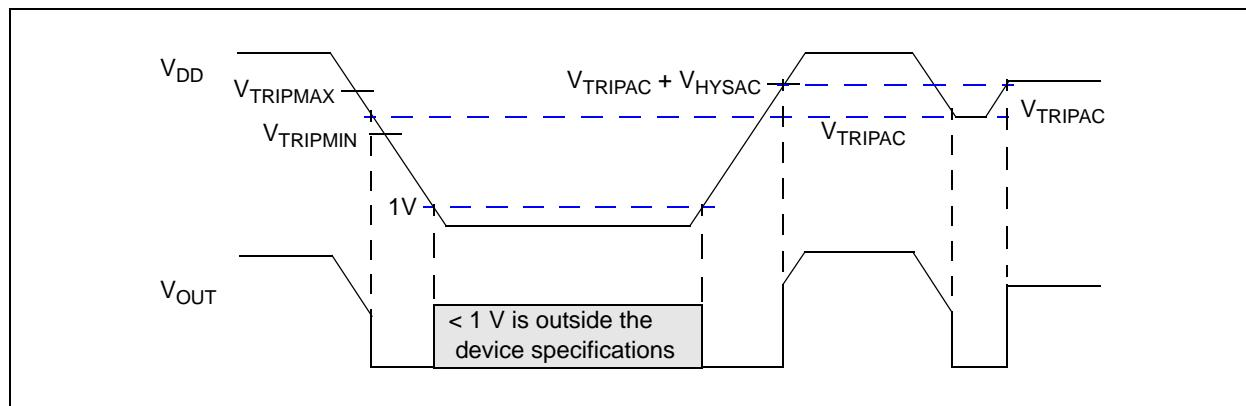

**FIGURE 4-1:** Typical Application Circuit.
**Note:** Unless otherwise indicated, all limits are specified for  $V_{DD} = 1V$  to  $5.5V$ ,  $R_{PU} = 100\text{ k}\Omega$  (only MCP111; see Figure 4-1),  $T_A = -40^\circ\text{C}$  to  $+125^\circ\text{C}$ .
Note: Unless otherwise indicated, all limits are specified for  $V_{DD} = 1V$  to  $5.5V$ ,  $R_{PU} = 100 k\Omega$  (only MCP111; see Figure 4-1),  $T_A = -40^\circ C$  to  $+125^\circ C$ .
**Note:** Unless otherwise indicated, all limits are specified for  $V_{DD} = 1V$  to  $5.5V$ ,  $R_{PU} = 100 \text{ k}\Omega$  (**only MCP111**; see **Figure 4-1**),  $T_A = -40^\circ\text{C}$  to  $+125^\circ\text{C}$ .
**Note:** Unless otherwise indicated, all limits are specified for  $V_{DD} = 1V$  to  $5.5V$ ,  $R_{PU} = 100 k\Omega$  (**only MCP111**; see **Figure 4-1**),  $T_A = -40^\circ C$  to  $+125^\circ C$ .
For many of today's microcontroller applications, care must be taken to prevent low-power conditions that can cause many different system problems. The most common causes are brown-out conditions, where the system supply drops below the operating level momentarily. The second most common cause is when a slowly decaying power supply causes the microcontroller to begin executing instructions without sufficient voltage to sustain SRAM, thus producing indeterminate results. Figure 4-1 shows a typical application circuit.
A 0.1  $\mu$ F bypass cap mounted as close as possible to the  $V_{DD}$  pin provides additional transient immunity (refer to Figure 4-1).